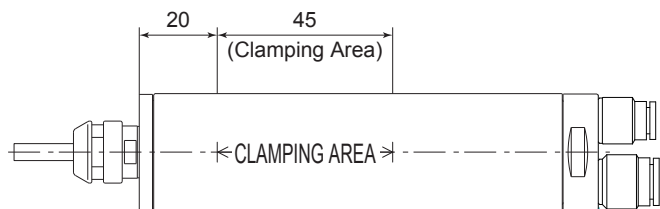

Fig. 9
① When mounting an Air Motor Spindle, refer to the Clamping Area etched on the Air Motor Spindle. (Fig. 9)